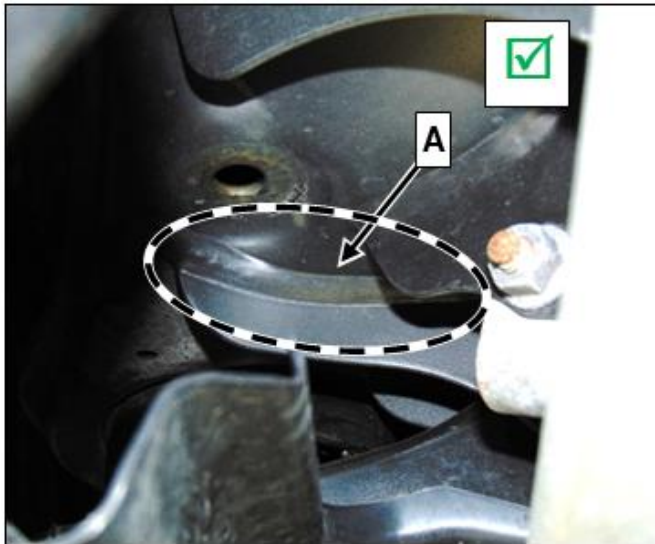

Figure 2
2. Check weld seam (**A, figure 2**) of thrust arm connection to rear axle carrier **on both sides**.